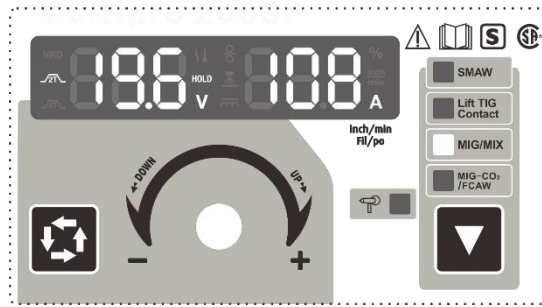

Fig.8 Status when welding is stopped in MIG Mode
⑦ **Fig.8** shows the data displayed on the panel at the end of the operation when releasing the torch switch. Moreover, “**HOLD**” flashes for 3 seconds then turns off, which means the welding